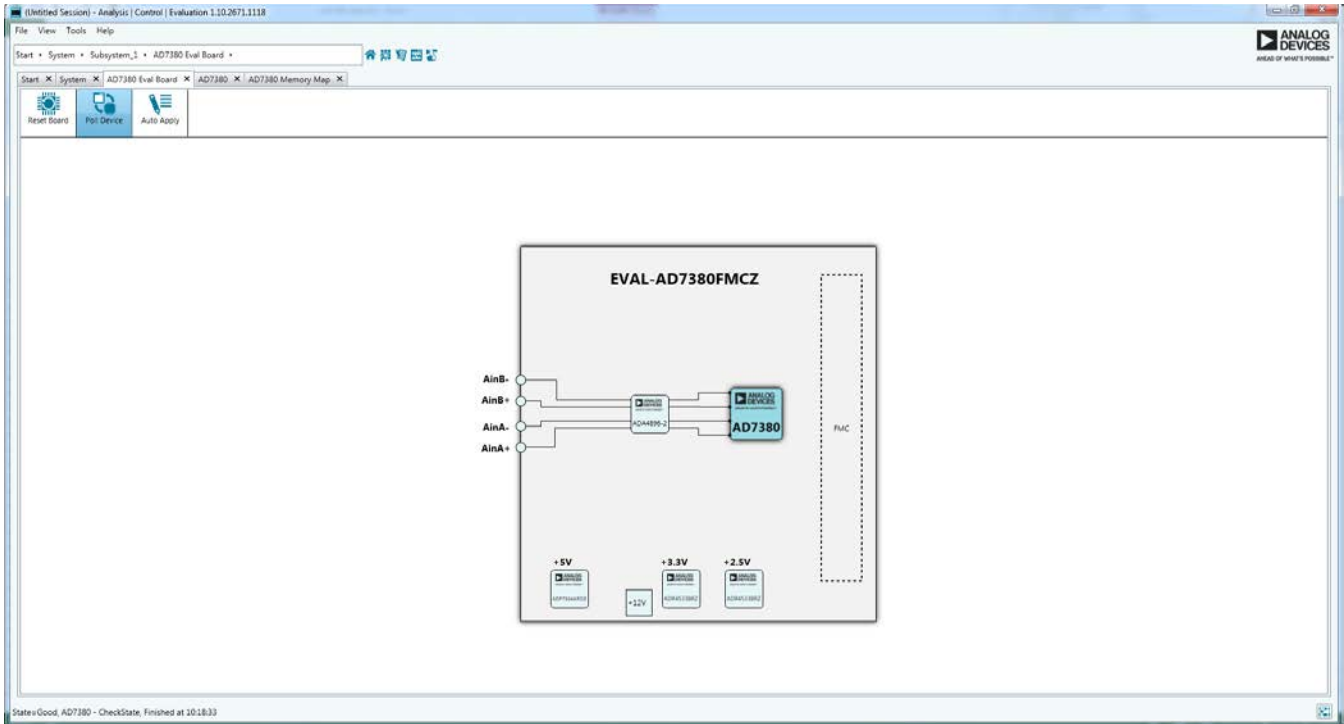

Figure 13. Board View
3. Double click the **AD7380 Eval Board** icon to view the window shown in Figure 13.